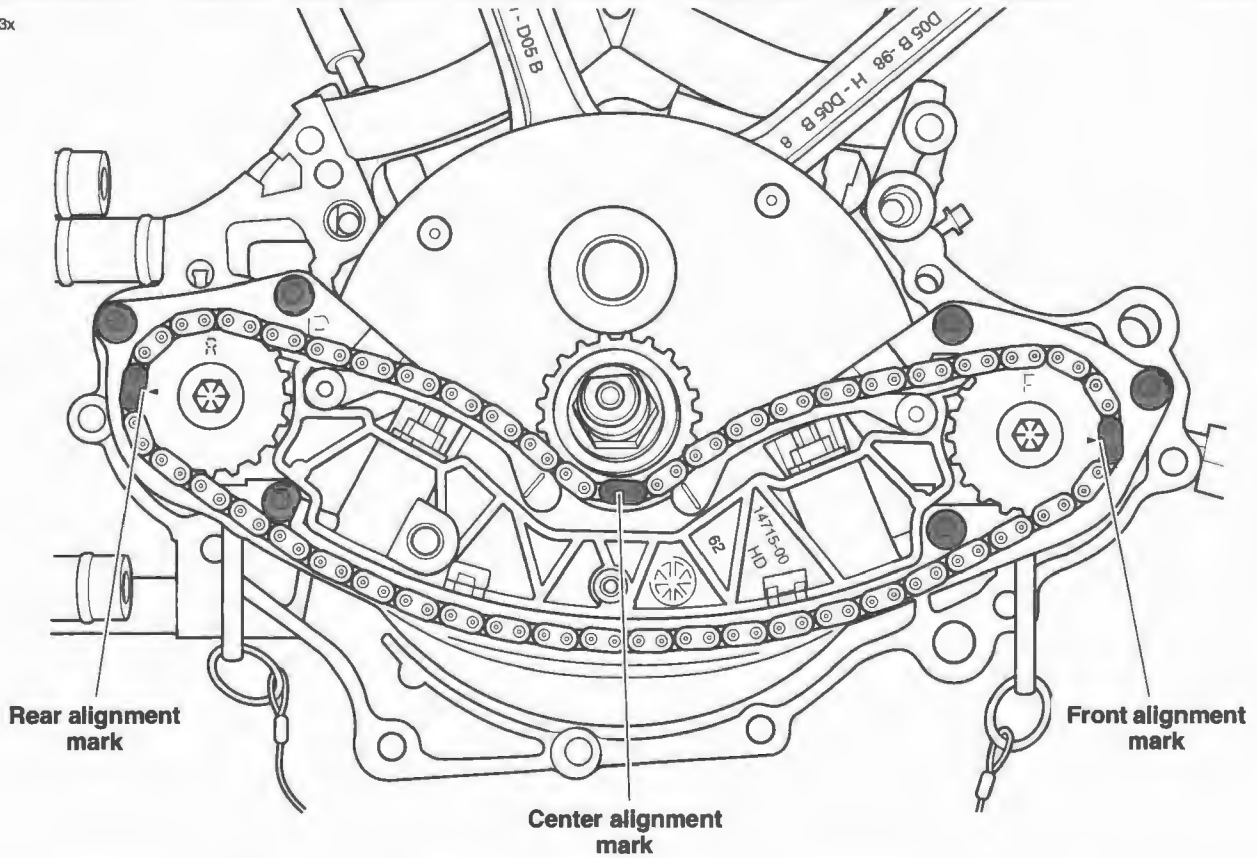

Figure 3-67. Balance Chain
10. See Figure 3-67. Install balance chain.
7. See Figure 3-67. Verify correct position of all three timing marks on chain and timing mark on flywheel balance sprocket.